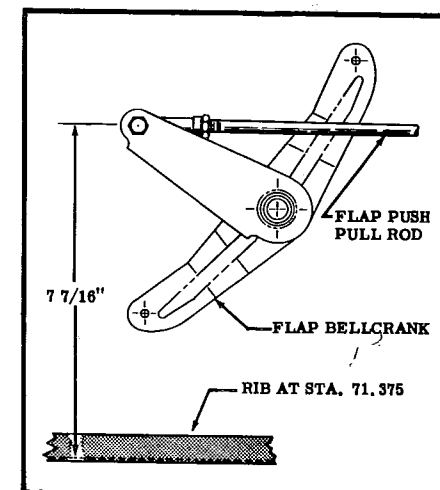

Figure 21. Flap Bellcrank Adjustment
Figures 21 to 27 inclusive outline the control systems, including control travel limits, location of control stops, and the location of turnbuckles. The use of the single .040 brass wire for safetying of turnbuckles is satisfactory and CAA approved. Rigging methods for the various systems are outlined below:
FLAPS (See figures 21 and 22).
- (2) Hold the flap in the full-up position by applying firm hand pressure upward and forward against trailing edge of flap.
- (3) Adjust the flap push-pull rod until the flap bellcrank is in the position shown in figure 21.
- (4) Release the hand pressure that was applied to the flap trailing edge in step 2 and tighten the flap-up cable turnbuckle located behind the rear cabin door post until the cable has a tension of 20-40 lbs.
- (5) Repeat steps 2 thru 4 for the opposite flap.
- (6) Move flap handle to the flap full-down position.